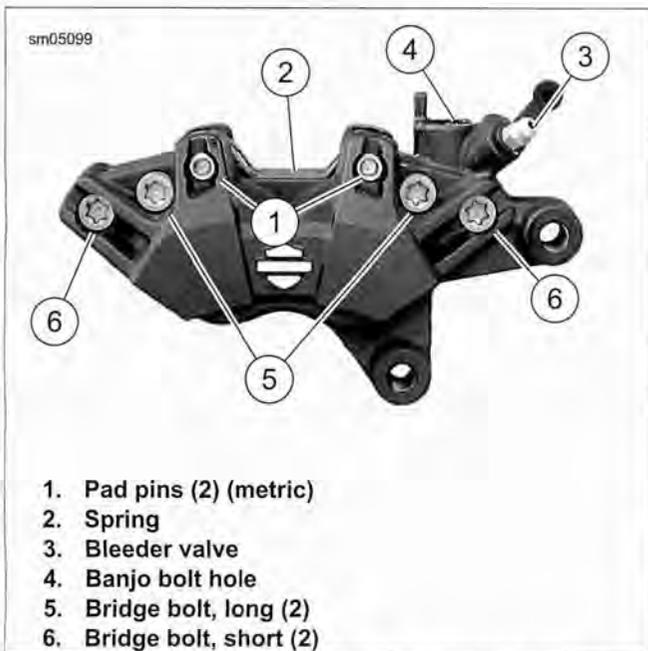
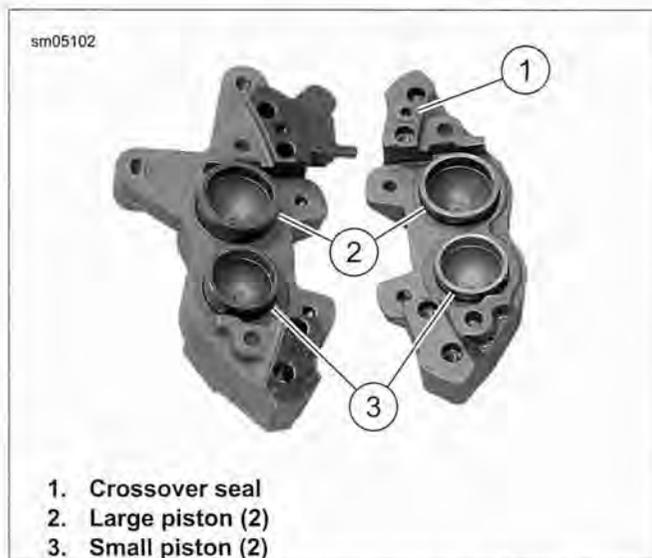

Figure 2-67. Preparing Caliper for Piston Removal
Figure 2-69. Caliper Housings and Pistons
1. See Figure 2-67. Remove brake pad pins (1) and anti-rattle spring (2).
2. Slide one brake pad out of caliper assembly. Do not remove bleeder valve (3) at this time.
3. With one brake pad in the caliper, loosely install brake pad pins (1) to hold brake pad in place.
- See Figure 2-67. Gently apply low pressure compressed air to banjo bolt hole (4) to force pistons from caliper bores.
- See Figure 2-67. If necessary, remove bleeder valve (3).
3. See Figure 2-69. Carefully insert pistons (2, 3) by hand, nose radius first, into caliper bores. If installation shows resistance, remove piston(s) and check that seals are properly installed and fully seated in grooves. Press pistons completely into bores.
4. Install **new** crossover seal (1).
5. See Figure 2-67. Apply a drop of LOCTITE 569 Sealant to the threads of the bridge bolts (5, 6). Assemble caliper housings and secure with bridge bolts. Verify the bridge bolts are in the correct locations based on length. Tighten bridge bolts to 12-18 ft-lbs (16.9-24.5 Nm).